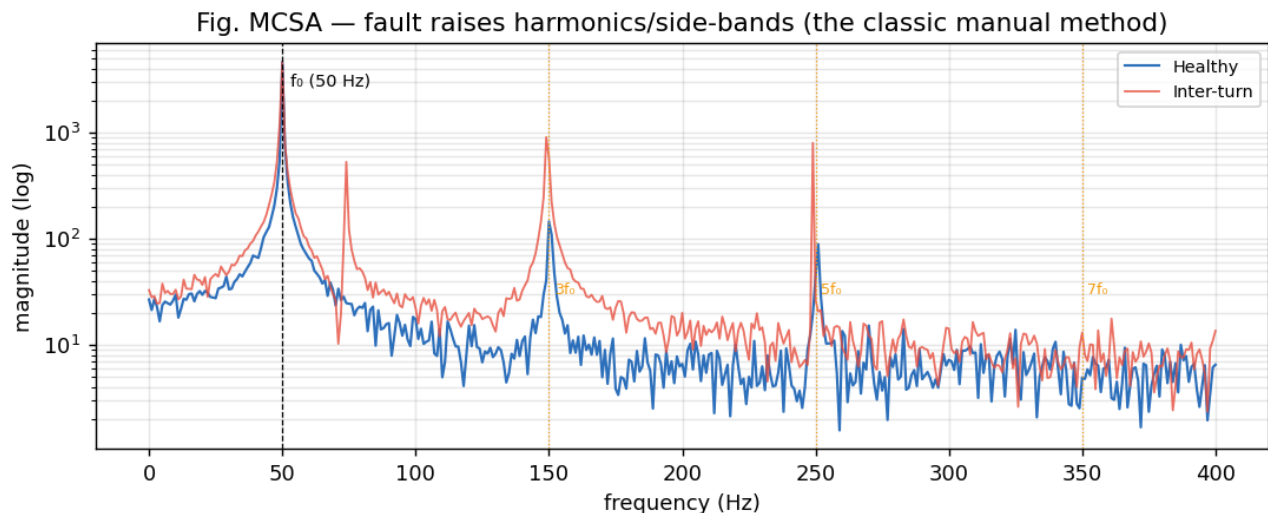

Figure 10: Fig. 10 — MCSA spectrum, healthy vs faulty
- **Motor Current Signature Analysis (MCSA):** take the FFT of the steady-state stator current and watch specific fault frequencies / side-bands (Fig. 10). The classic, sensor-free industrial method.